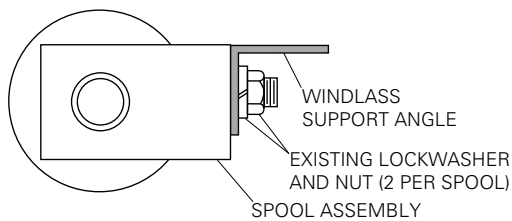

Figure 8. Secure the spool assemblies with the nuts and lockwashers previously removed.
2. Insert the captive spool bolts through the holes of the windlass support angle as shown in Figure 8.
3. Secure the spool assemblies with the nuts and lockwashers previously removed as shown in Figure 8.